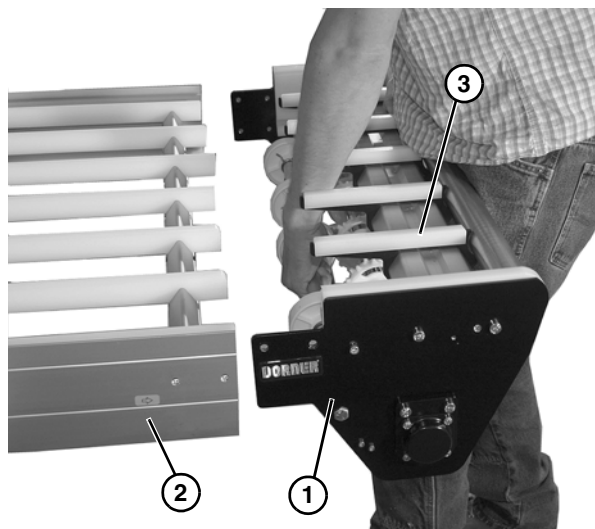

Figure 48
3. Remove the drive tail assembly (Figure 48, item 1) from the frame (Figure 48, item 2).
4. Remove wear strips, (Figure 48, item 3), as necessary.